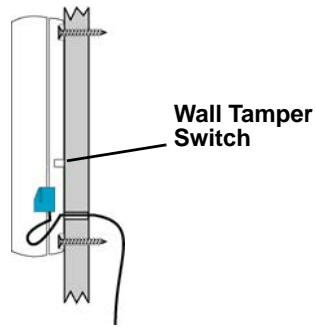

Figure 2 Mount the Transmitter to the Wall
10. Route the external wiring through the wall, as shown in Figure 2.